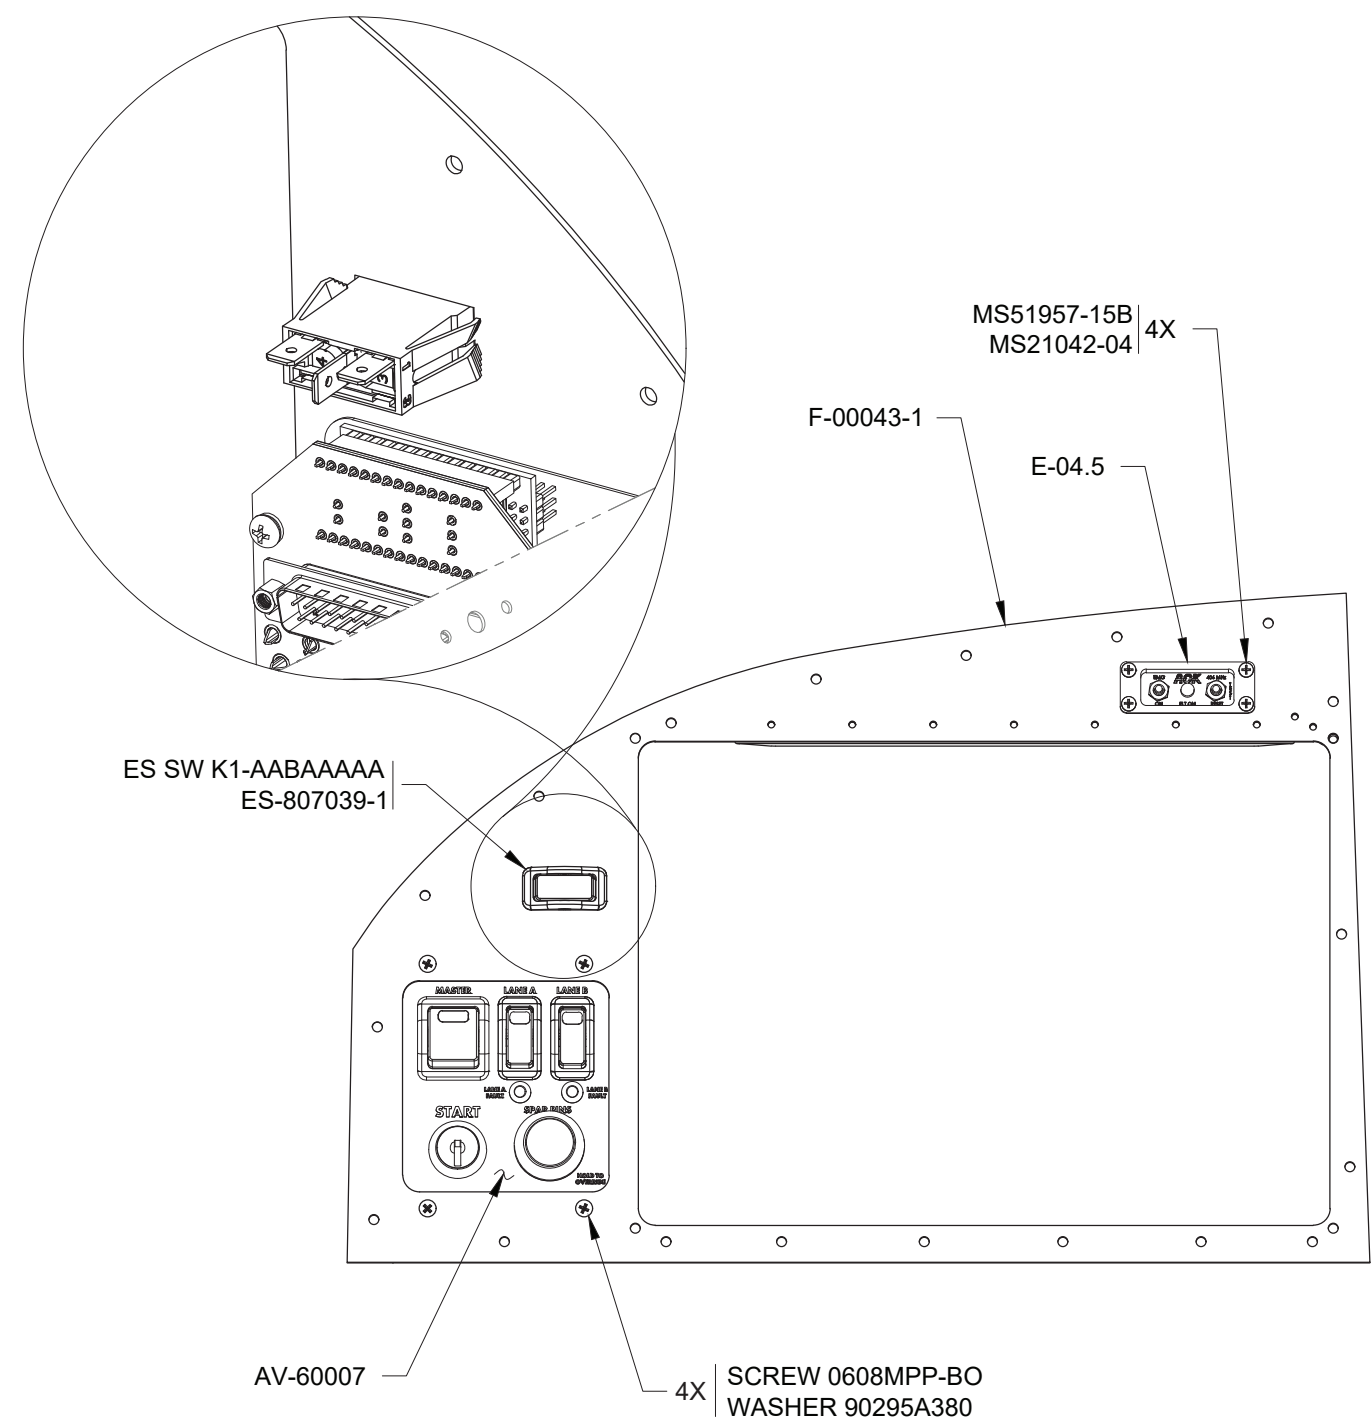

FIGURE 1: PREPARING THE F-00043-1
Step 2: Remove the ES SW K1-AABAAAAA Switch from the WH-00134-4 RV-12iS Garmin Common Harness (VFR), then install the switch and ES-807039-1 Gasket into the F-00043-1. Ensure the switch orientation matches the detail view in Figure 1.
Step 4: Attach the E-04.5 Cockpit Remote to the F-00043-1 with screws and nuts as shown in Figure 1.
NOTE: Refer to Figure 1 for all of the steps on this page.